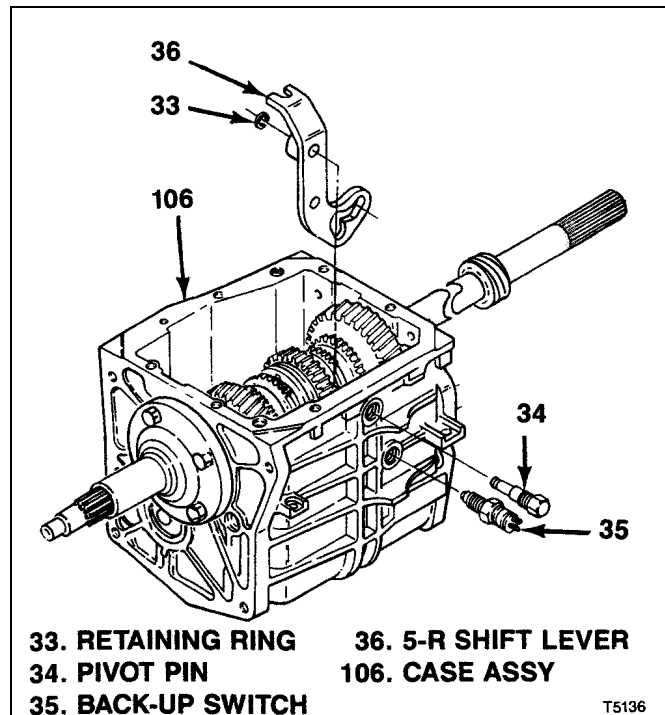

Figure 7-14. T5 STD 5-R Shift Lever
- d. Install thrust race (40), bearing (39), and thrust race (38). Retain these parts by installing snap ring (37).
**7-16. INSTALLATION OF T5 STD 5-R SHIFT LEVER** (see figure 7-14):